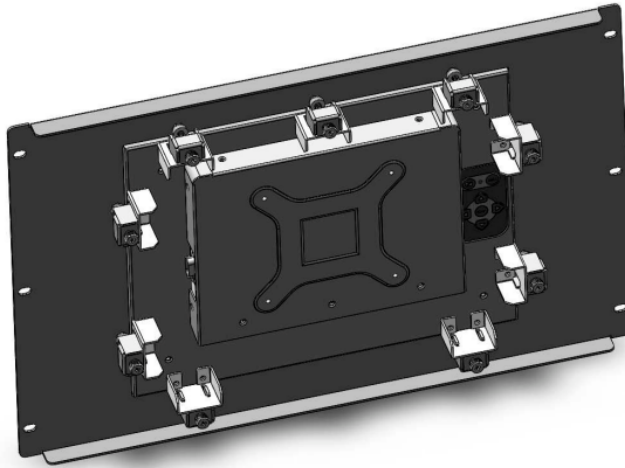

Figure 4-17: Secure the Rack/Cabinet Bracket
- Step 5:** Tighten the screws that pass through the panel mounting clamps until the plastic caps at the front of all the screws are firmly secured to the panel (**Figure 4-17**).
- Step 3:** Tighten the screws that pass through the rack mounting clamps until the plastic caps at the front of all the screws are firmly secured to the bracket (**Figure 4-17**).